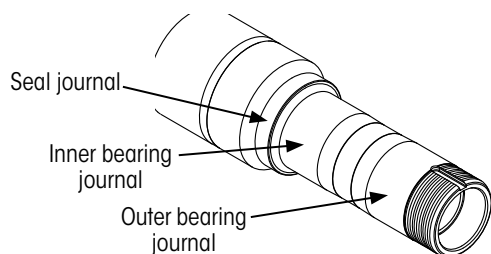

Figure 10: HP or HX Spindle seal & bearing journals
2. **Inspect** machined spindle journals (Figure 10) for nicks, scratches, burrs or marks. If needed, use crocus cloth or emery cloth to repair any damaged areas.
1. Taking care not to damage the seal, **gently slide** the hub onto spindle until the seal is against the spindle seal journal (Figure 10 on page 10).